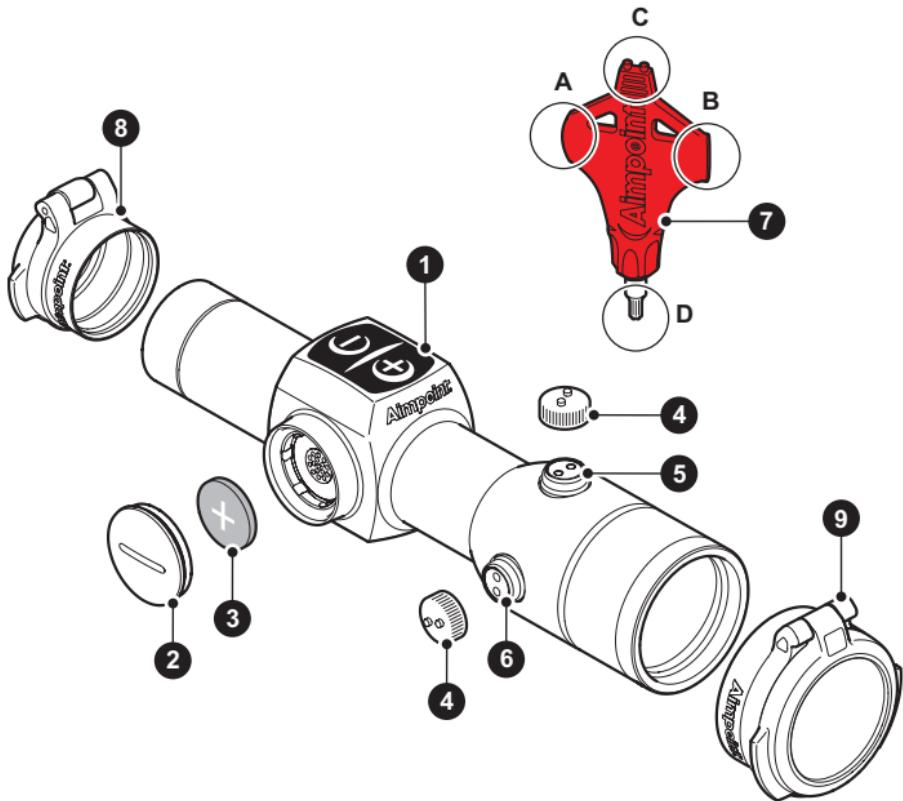

Fig. 2 ➔ 1.2
See Fig. 2
- Start the sight by pushing or on the intensity adjustment touch pad (1) located on top of the sight.
- a Remove battery cap (2) by turning it counter clockwise using the plastic adjustment tool (7A) included with your sight.
- b Insert battery (3) with positive end (+) toward battery cap (2) as can be seen in Fig 2.